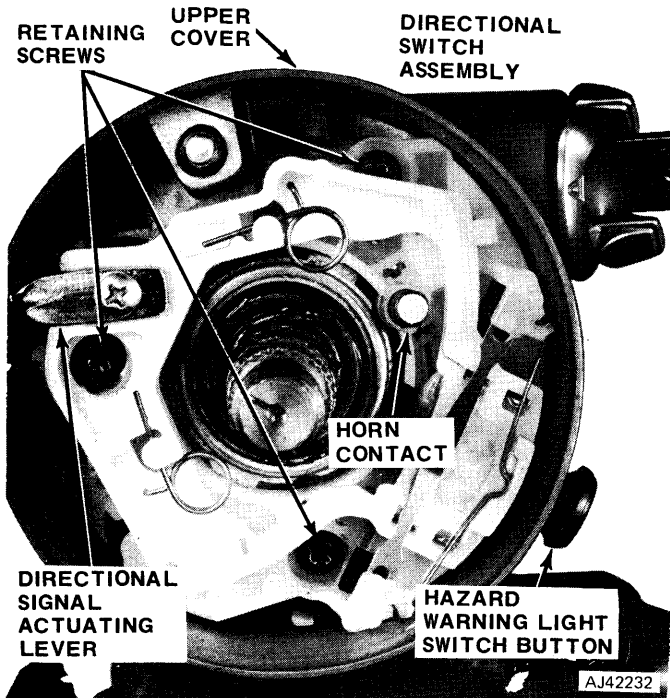

Fig. 3-82 Directional Switch
(13) Remove directional signal switch retaining screws and pull directional signal switch and wire harness from column (fig. 3-82).